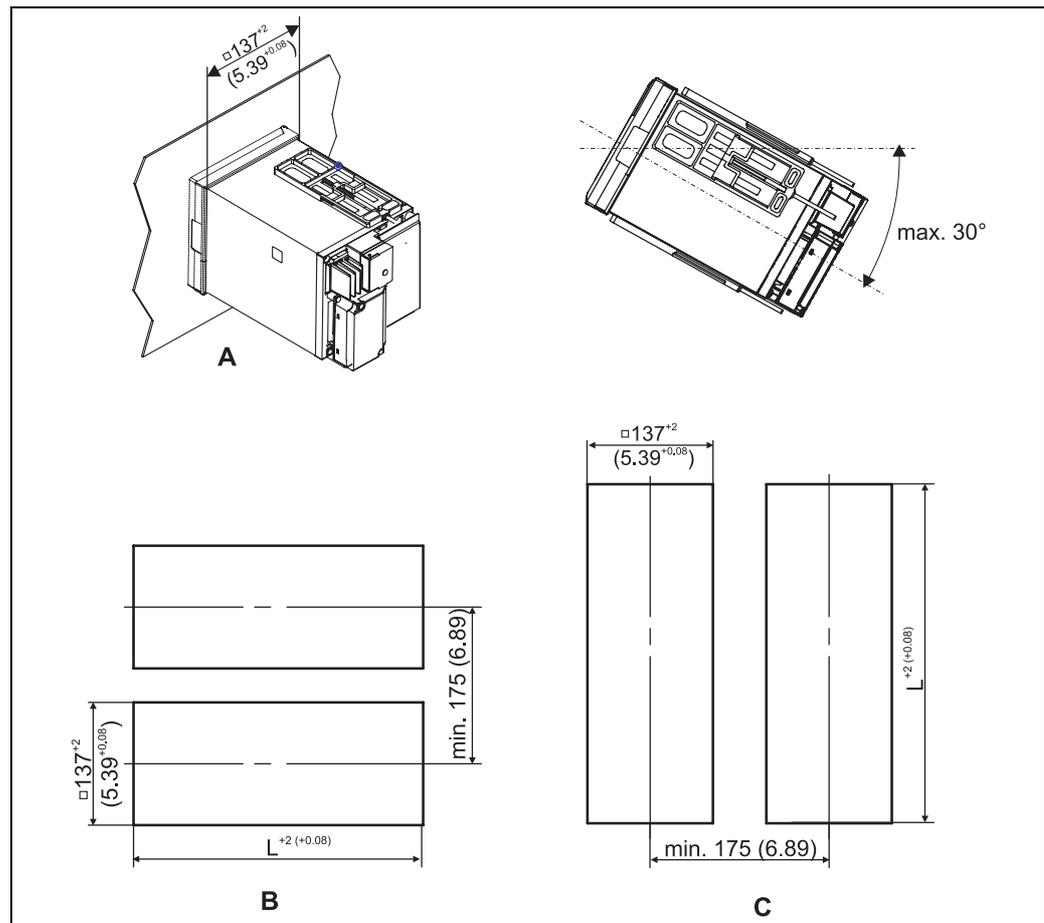

fig. 5: Panel cutout - dimensions in mm (inch)
Install the recorder horizontally (however, the recorder can be inclined up to 30 ° backwards for panel mounting, see Fig. 5).
1. Insert the recorder from the front side of the panel (→ Fig. 5).